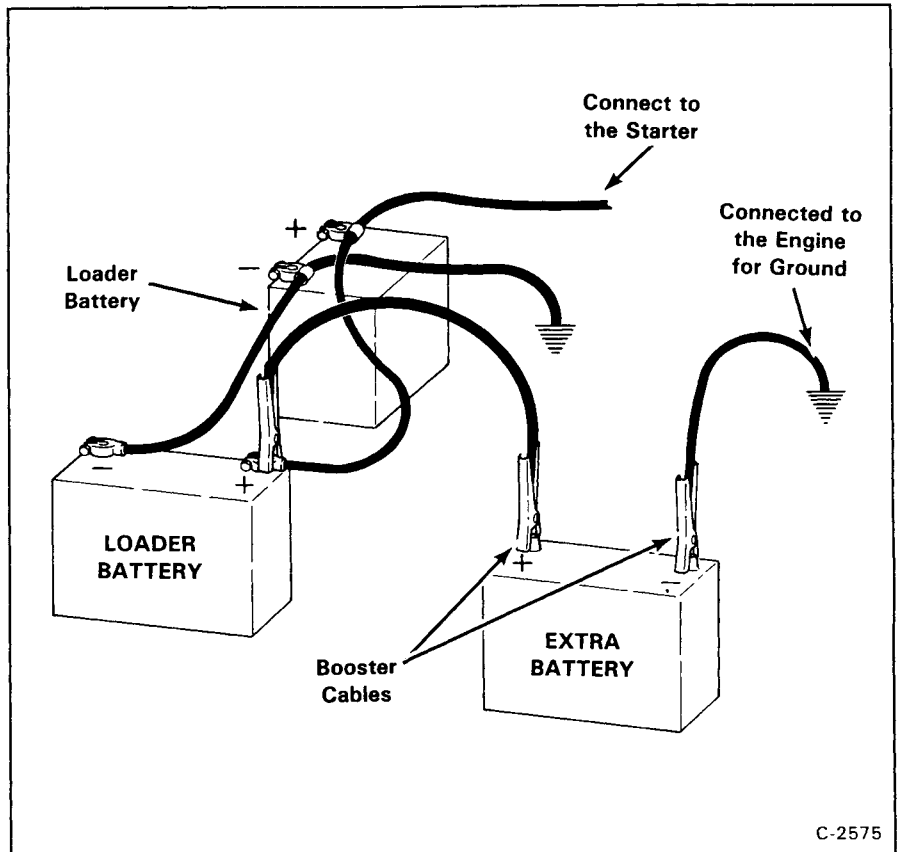

Fig. 72 Connecting the Extra Battery
5. Connect the end of the first cable to the positive terminal (+) of the booster battery. Connect the other end of the same cable to the positive terminal (+) of the machine battery (Fig. 72).
NOTE: Figure 72 does not show the batteries as they are located in the loader.